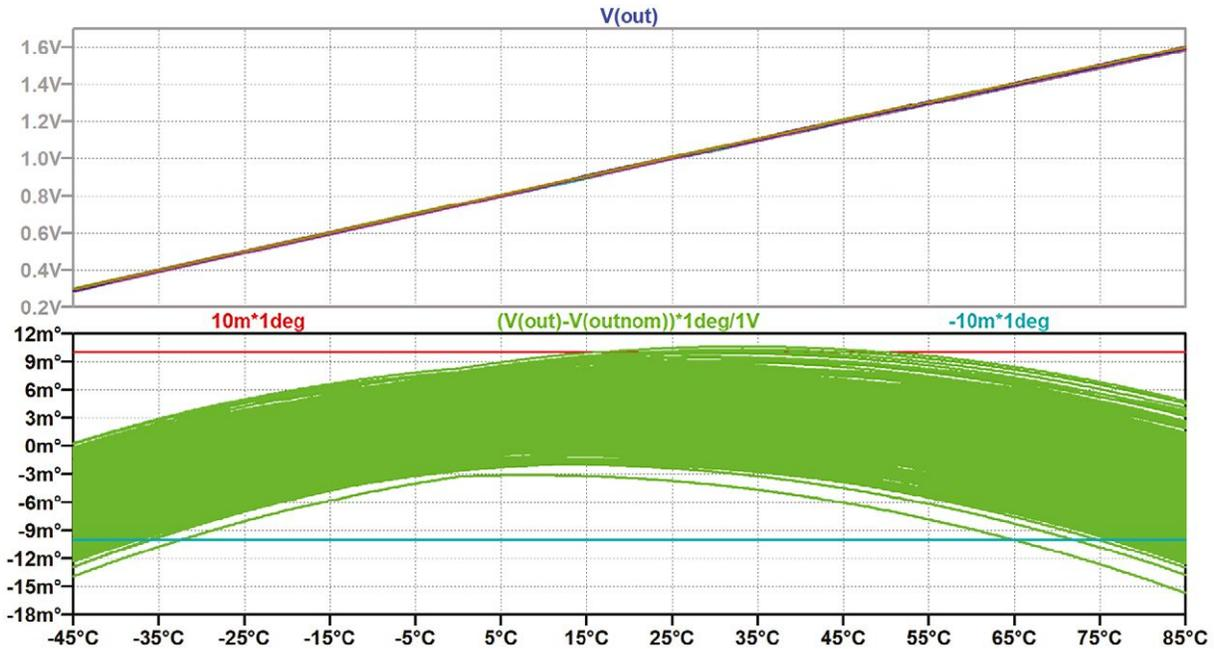

Fig. 4
- Compute the effective accuracy of the LTC2063 output in $^\circ\text{C}$ (see Fig. 4)
The results of Fig. 4 show that even with all the tolerances, this circuit provides a linear output as a function of temperature (higher pane) with an overall accuracy mainly within the ± 1 °C (lower pane) QED.